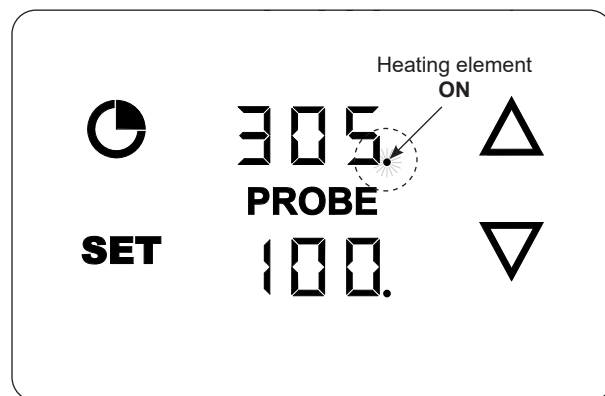

Fig. 38-2 Heating element ON
- The **dot** next to the grilling temp. indicates that the heating element is **on**. The **dot** turns on and off intermittently as the element maintains the set temp. See Fig. 38-2.